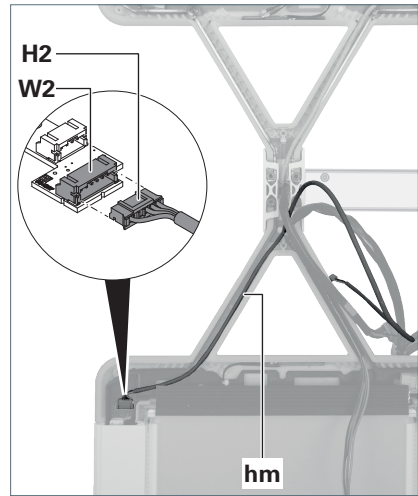

Fig. 17: Connecting the control cable.
5. Lay the control cable **hm** of the stranded wire set into the supporting arm of the luminaire head 2, see Fig. 17.